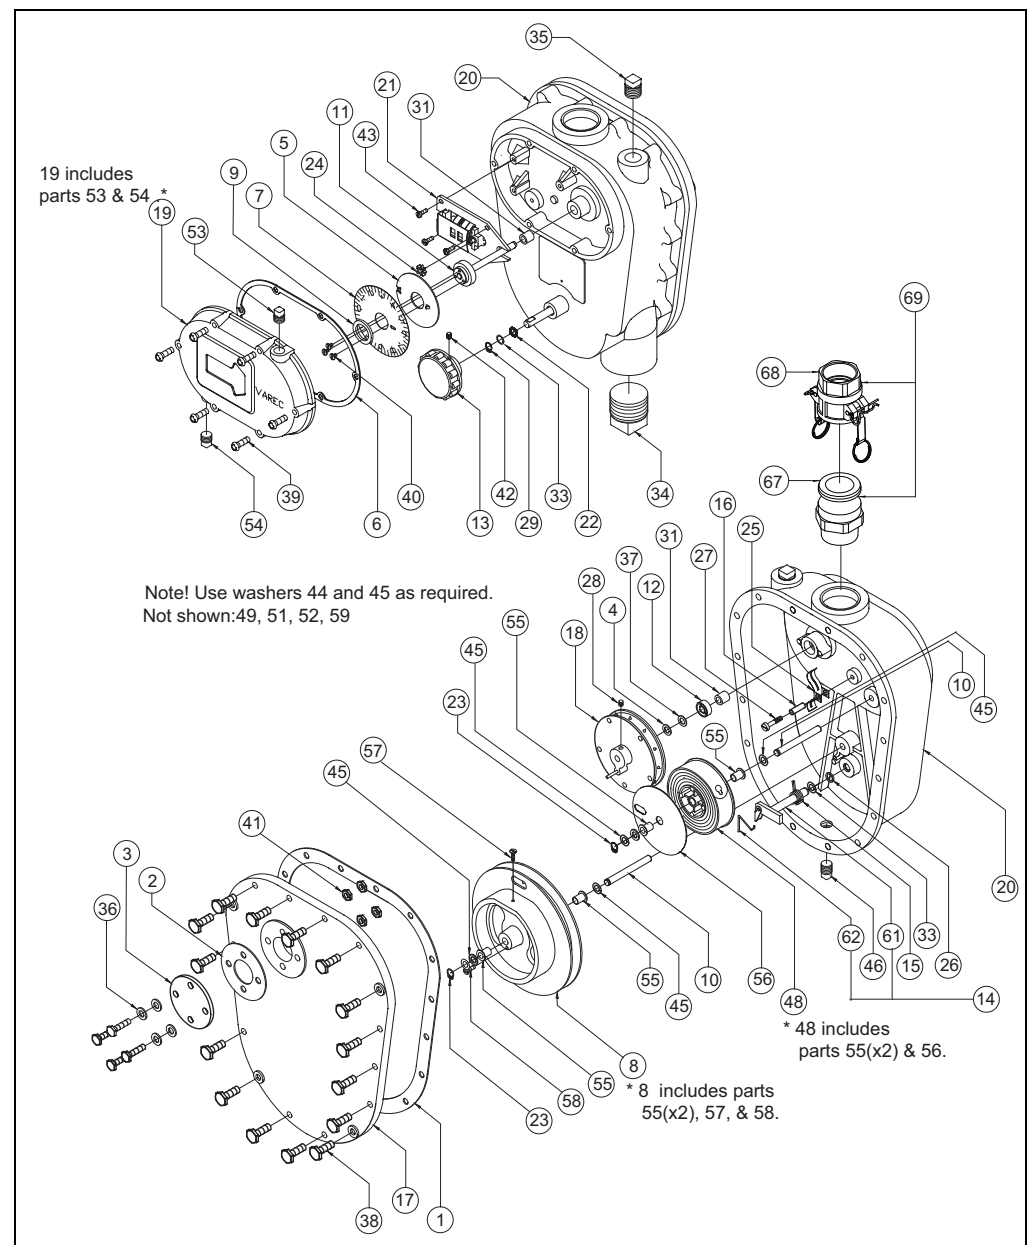
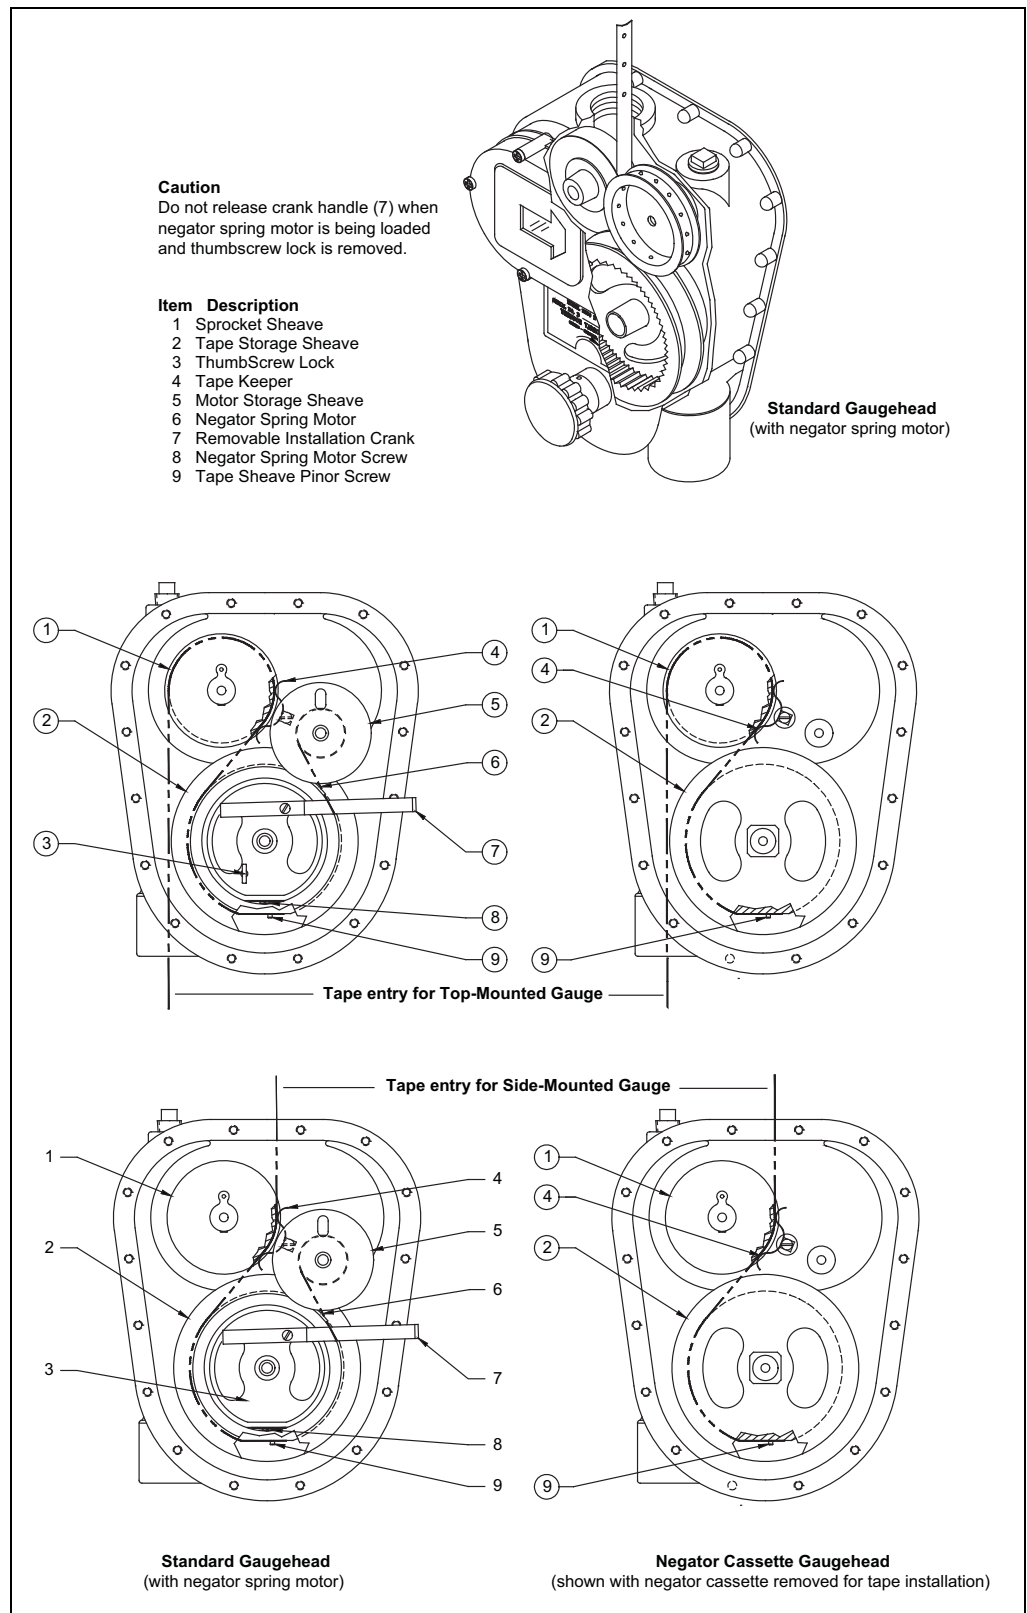

Figure 6-1: 2500 ATG Gaugehead spare parts
Figure 6-2: Tape Routing
Figure 6-1 below is key to understanding the disassembly/reassembly procedure. The small numbers in parentheses (for example, (12)), refer to the item numbers in this figure. References in the following procedures are directed to this figure, unless otherwise indicated.
12. Unwind the motor spring onto the motor storage sheave (Figure 6-2).
Unless otherwise labelled, numbers in parentheses, (12) for example, refer to the item callout numbers on Figure 6-1 or Figure 6-2.